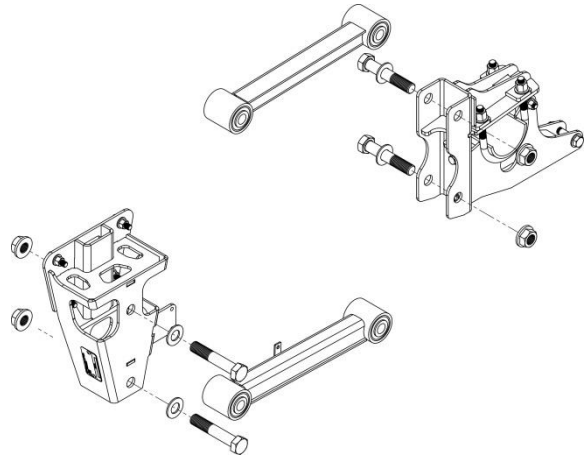

Figure 19. Control Arm installation. Driver side shown.
- Install the control arms between the driver side front hanger and axle hangers loosely with (4) 1"-8 x 5.50" Hex Cap Screws, (4) 1" Hardened Flat Washers, and (4) 1"-8 Locking Flange Nuts. See Figure 19.